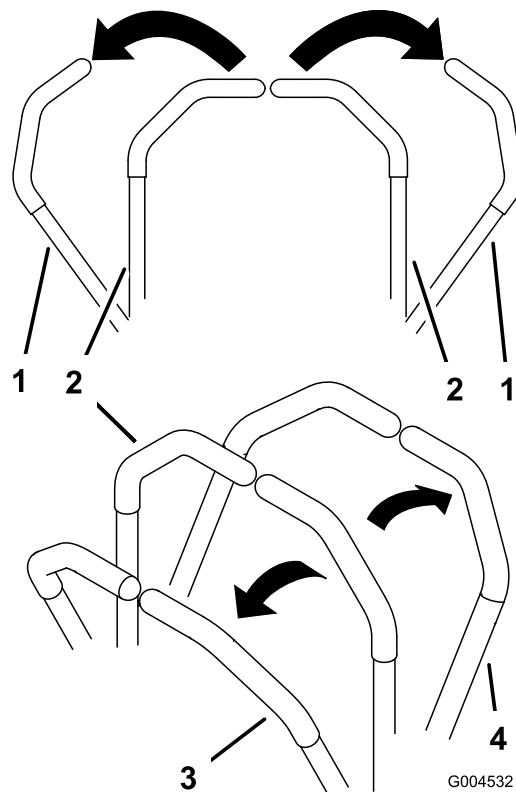

Figure 14
1. Move the motion control levers (Figure 14) out to the neutral locked position.
- To go straight forward, slowly push the motion control levers forward (Figure 14).
- To go straight rearward, slowly pull the motion control levers rearward (Figure 14).
- To turn, slow the machine by pulling back on both levers and then push forward on the lever on the opposite side from which you want to turn (Figure 14).